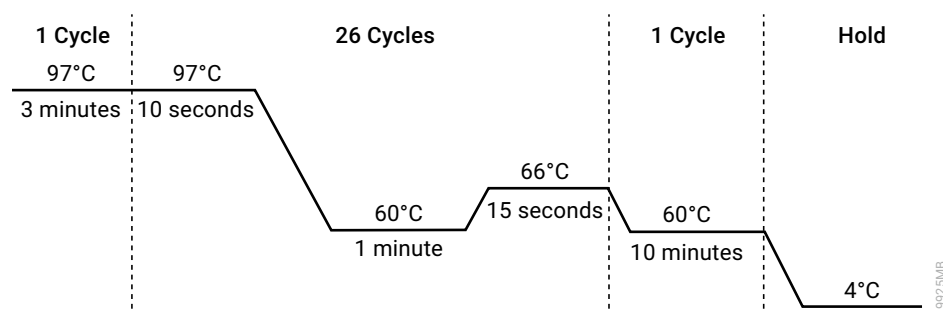

Figure 34. Thermal cycling protocol for the Mastercycler® X50s PCR System.
- Select and run the protocol provided below and in Figure 34. The total cycling time is approximately 70 minutes.